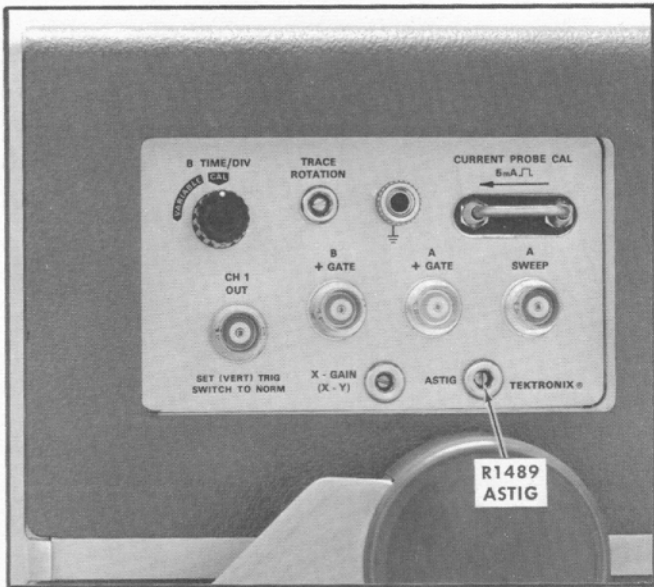

Fig. 6-12. Location of ASTIG adjustment (side panel).
- g. ADJUST—FOCUS control and ASTIG adjustment, R1489 (see Fig. 6-12), for best definition of the markers.